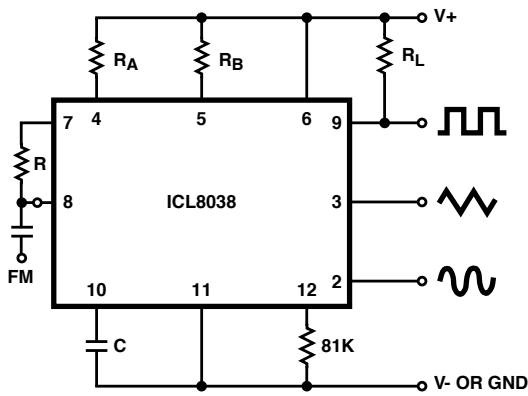

FIGURE 5A. CONNECTIONS FOR FREQUENCY MODULATION
3. $V_{\text{SUPPLY}} = 20\text{V}$; R_A and $R_B = 10\text{k}\Omega$, $f \approx 10\text{kHz}$ nominal; can be extended 1000 to 1. See Figures 5A and 5B.
The frequency of the waveform generator is a direct function of the DC voltage at Terminal 8 (measured from V₊). By altering this voltage, frequency modulation is performed. For small deviations (e.g. ±10%) the modulating signal can be applied directly to pin 8, merely providing DC decoupling with a capacitor as shown in Figure 5A. An external resistor between pins 7 and 8 is not necessary, but it can be used to increase input impedance from about 8kΩ (pins 7 and 8 connected together), to about (R + 8kΩ).